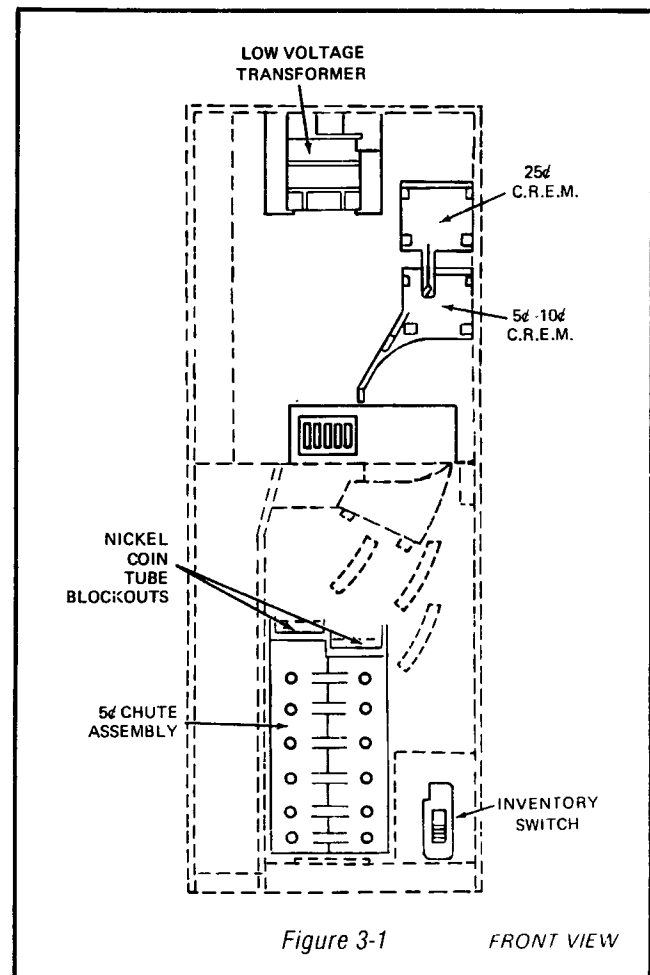

Figure 3-1 FRONT VIEW
B. 5-10¢ COIN RETURN ELECTRO-MAGNET (Figure 3-1)
(Figure 3-1)**
L. LOW VOLTAGE TRANSFORMER (Figure 3-1)